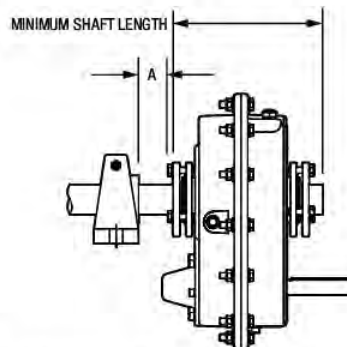

Figure 6 - Minimum Recommended Dimensions
1. One bushing assembly is required to mount the reducer on the driven shaft. An assembly consists of two tapered bushings, bushing screws and washers, two bushing backup plates and retaining rings, and necessary shaft key or keys. The driven shaft must extend through the full length of the reducer. If the driven shaft does not extend through the reducer do not use the standard tapered bushings; instead use the short shaft bushings as described in the Short Shaft Bushings section that follows. The minimum shaft length, as measured from the end of the shaft to the outer edge of the bushing flange (Figure 6), is given in Table 1.
1. One bushing assembly is required to mount the reducer on the driven shaft. An assembly consists of one long tapered bushing, one short tapered bushing, one tapered bushing wedge, bushing screws and washers, two bushing backup plates and retaining rings, and necessary shaft key or keys. The driven shaft does not need to extend through the reducer for the short shaft bushing to operate properly. The minimum shaft length, as measured from the end of the shaft to the outer edge of the bushing flange (see Figure 6), is given in Table 1.